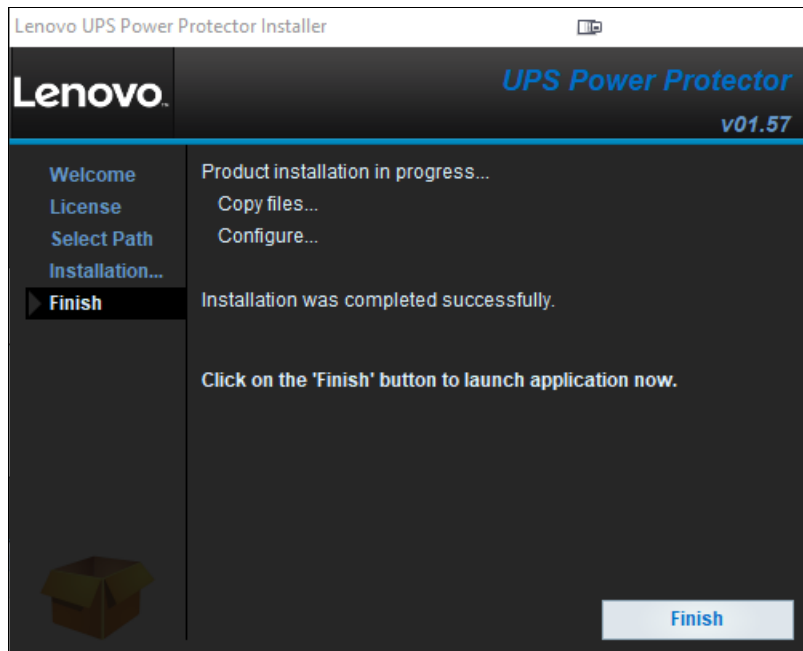

Figure 7 Successful install
3. When the installation has successfully finished, the following screen will appear as shown in Figure 7.